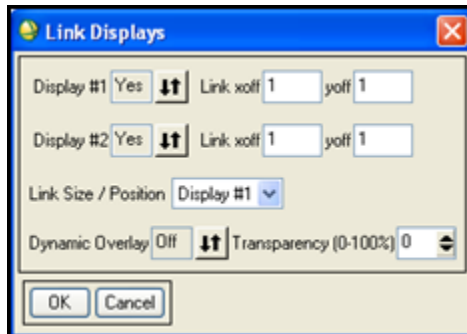

Figure 7.1c. Link Displays dialogue box
- In the menu bar of the input image, select Tools, then link, then Link Displays. The Link Displays dialogue box opens (Figure 7.1c).